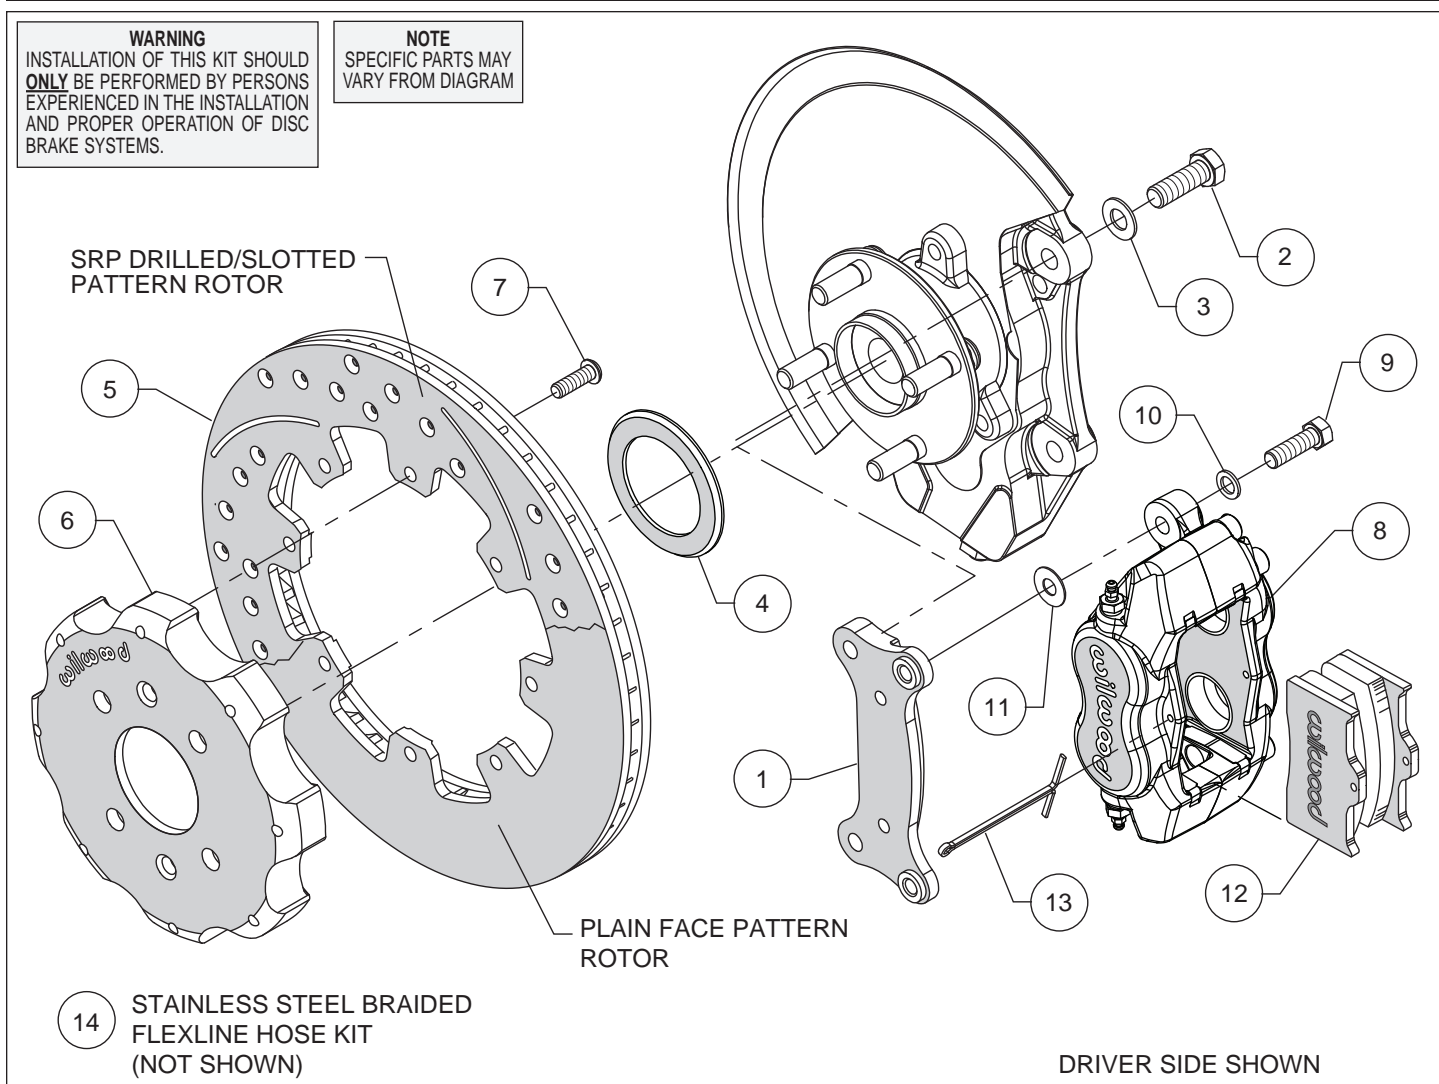

Figure 1. Typical Installation Configuration
Assembly Instructions (numbers in parenthesis refer to the parts list and Figure 1 on the preceding pages): **CAUTION:** All mounting bolts must fully engage clinch nuts. Be sure to check that all bolts are either flush or protruding through flanged side of clinch nut after shimming, Figure 3.
- Orient the caliper mount bracket (1) as shown in Figure 1 and Photo 1, and install using bolts (2) and washers (3). Ensure that the flanged heads of the clinch nuts in the bracket are facing outboard, Photo 1. Temporarily tighten the mounting bolts. **NOTE:** The bracket must fit squarely against the mount bosses on the upright. Inspect for interference from casting irregularities, machining ridges, burrs, etc. Remove bolts one at a time, apply red *Loctite*[®] 271 to the threads and torque to 60 ft-lb.
- Orient the rotor (5) and the hat (6) as shown in Figure 1 and Photo 2. Attach rotor to hat using bolts (7). Using an alternating sequence, apply red *Loctite*[®] 271 to the threads, and torque to 25 ft-lbs.
- Slide the rotor registration adapter (4) onto the axle register on the axle hub with the smaller O.D. facing toward the rotor/hat (5/6), Photo 3. Slide the hat/rotor assembly onto the axle hub. **NOTE:** The hat must fit flush against the axle hub flange or excessive rotor run out may result. Install three lug nuts (finger tight) to keep the hat/rotor assembly in place while continuing with the installation.
- **NOTE:** Please reference the caution statement at the beginning of the assembly instructions. Mount the caliper (8) onto the caliper mounting bracket (1) using bolts (9) and washers (10), as shown in Figure 1. Initially place one .035" thick shim (11) on each bolt between the caliper and the bracket, Photo 4. Temporarily tighten the mounting bolts and view the rotor (5) through the top opening of the caliper. The rotor should be centered in the caliper, Photo 5. If not, adjust by adding or subtracting shims between the bracket and the caliper. Always use the same amount of shims on each of the two mounting bolts. **NOTE:** The end of each bolt must be flush with or slightly protruding from the head of the clinch nut, as shown in Figure 3. If necessary place spare shims between washer (10) and caliper mounting ear to achieve the proper clinch nut engagement. Once the caliper alignment and clinch nut engagement are correct, remove the bolts one at a time, apply red *Loctite*[®] 271 to bolt threads, and torque to 40 ft-lb.